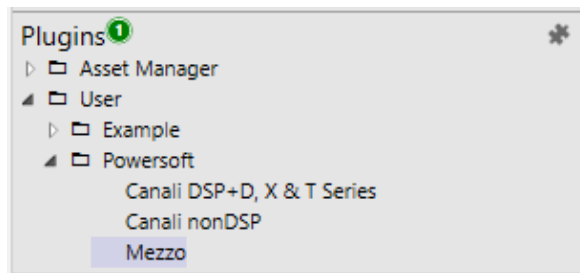

Figure 1 – Screenshot of Plugins section of QSYS Designer.
3. The plug-in will appear in the “Plugins” tab (Figure 1) under Powersoft. Click on it and drag it into your design.